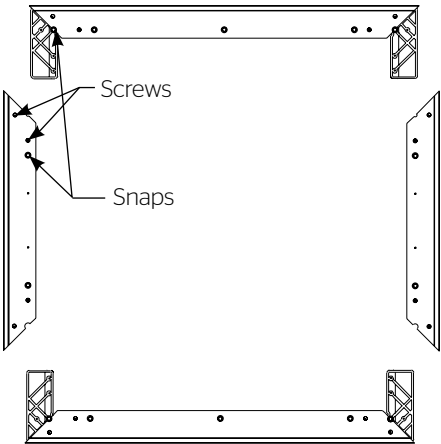

Figure 1 (Rear View)
2. Slide the frame pieces together at corners (Note: Frame assembly holes may not appear to fit properly at the corners until all fasteners have been attached. Once fasteners are attached, the frame corners will be drawn in for a proper fit.) Secure frame pieces with #10 screws provided. Do not tighten screws until all are started, then tighten. See Figure 1.